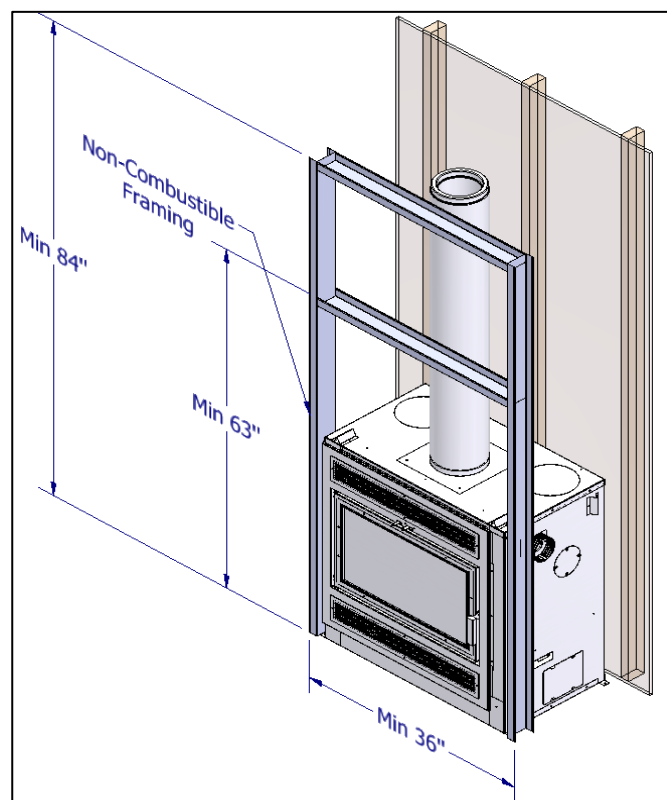

Figure 3-17: Minimum Astra 24 Framing Dimensions
The Astra 24 can be placed directly onto or against normal, combustible construction materials such as lumber, plywood, millboard, particleboard, drywall and decorative wood paneling. The fireplace should NOT be placed directly against or be in contact with an insulation material. A portion of the framing on the face of the chase must be constructed with nominal 2" x 3" or 2" X 4" metal studs and the remainder can be constructed with nominal 2" X 3" or 2" X 4" lumber. Refer to Figure 3-17 for framing design. The framing must be nailed or screwed onto the floor and to the ceiling.
**CAUTION:** Respect the framing design outlined in Figure 3-17 as well as the chimney manufacturer's clearances to combustibles.